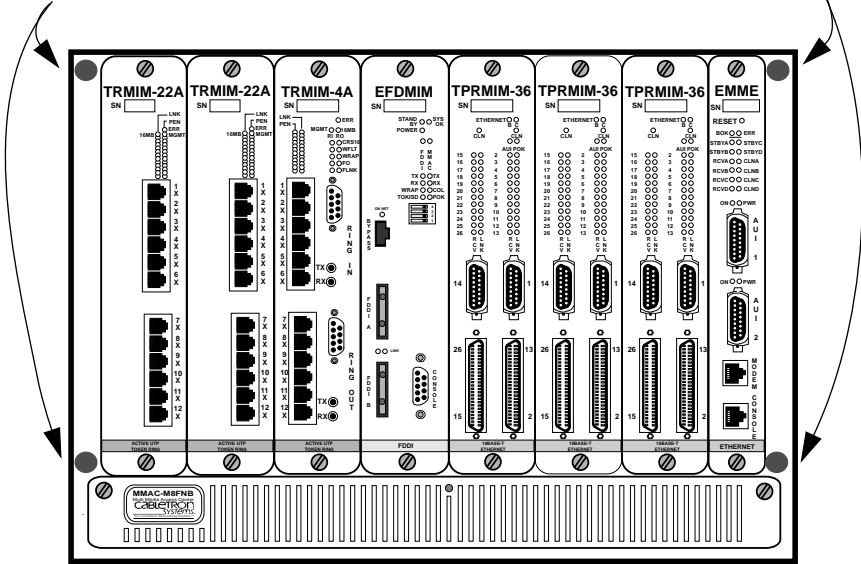

Figure 3-5. Installing the Security Bars
2. Place one of the security bars across the top row of knurled knobs securing the modules and panels to the chassis; align the screws in the security bar with the holes in the chassis (as illustrated in Figure 3-5), and tighten the screws. Repeat the procedure with the second security bar, using it to cover the bottom row of knurled knobs.